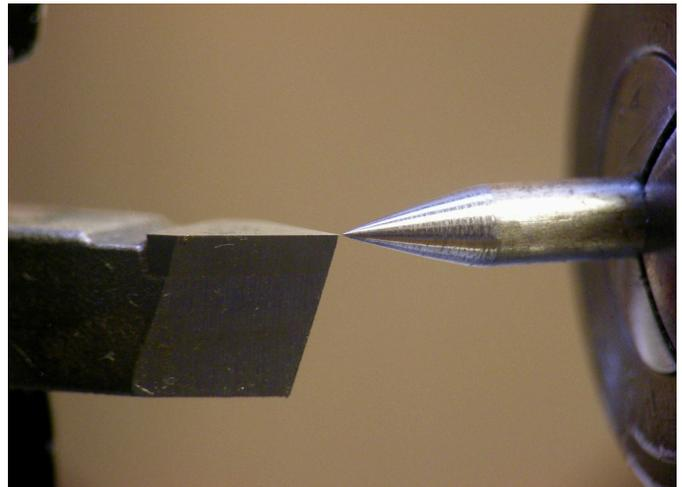

FIGURE 1
3. 90% of my lathe tool use is with factory stock AR-4, and E-4 or D-4 brazed carbide tools Made in the USA only. They are held in double-sided standard tool posts until they are replaced. They are shimmed so that the cutting tip is dead center to the center of spindle rotation per attached photo (see Figure 1). I first file a piece of rotating stock with a file to a sharp pencil point. The cutting tip of the tool is then set/shimmed with optics viewing from the rear of the lathe. This setting is absolutely critical for anything good to happen.